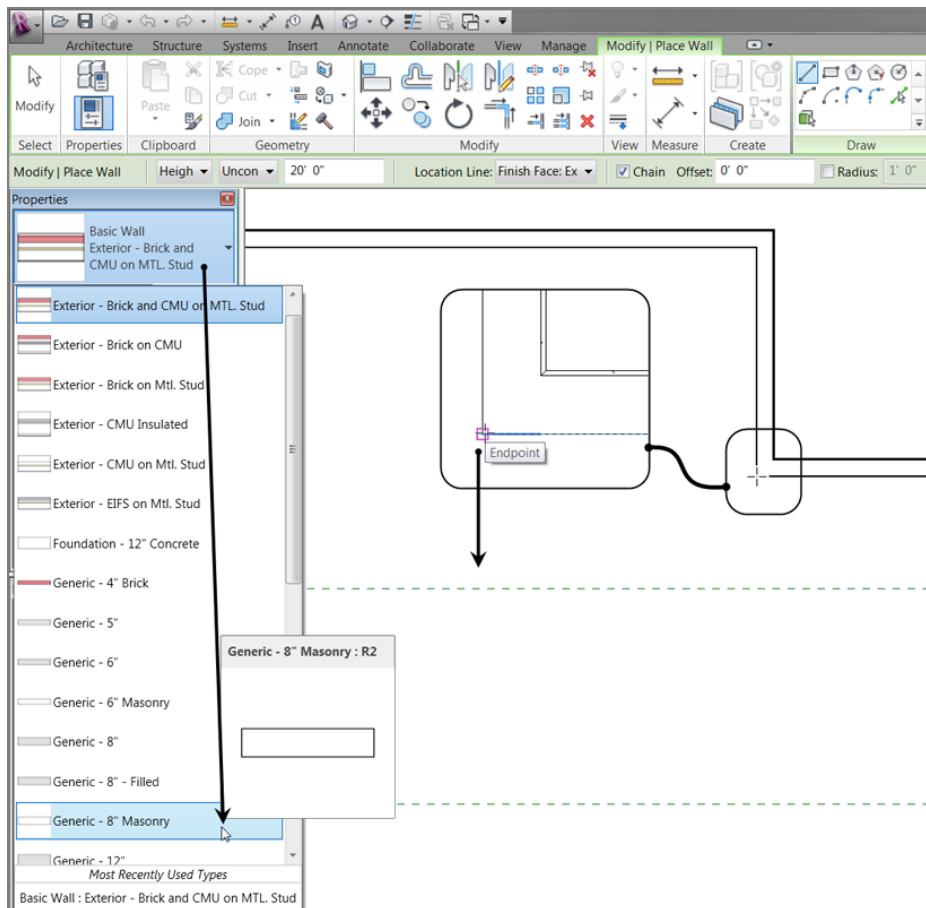

FIGURE 2.21: Start drawing the 8" (200mm) CMU elevator shaft in the corner indicated here. Turn on Thin Lines if you need to.
1. Open or make sure you're in Floor Plan Level 1. Zoom into the north-east corner of the building, as shown in Figure 2.21.
3. In the Type Selector, select Generic - 8" Masonry (Generic - 200), as shown in Figure 2.21.
4. For the starting point, pick the corner as shown in Figure 2.21. The wall will probably be in the wrong orientation, so if necessary, tap the spacebar to flip the wall's orientation.